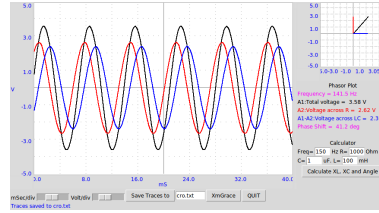

Figure 2.5: AC response of series RLC circuit
**Observation** The total voltage, voltage across R and the voltage across LC are shown in figure 2.5. The phasor diagram shows the phase angle between the current and the voltage. The inductance used in this experiment is around 300mH, having a resistance of 5Ω.